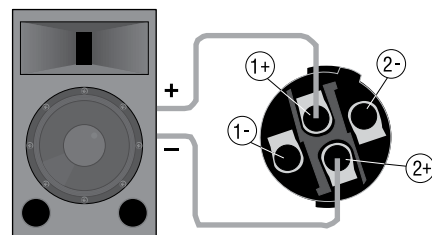

Figure 2.12
- 2) Wire the speaker only to the Speakon® connector as shown in Table 2 and Figure 2.12.